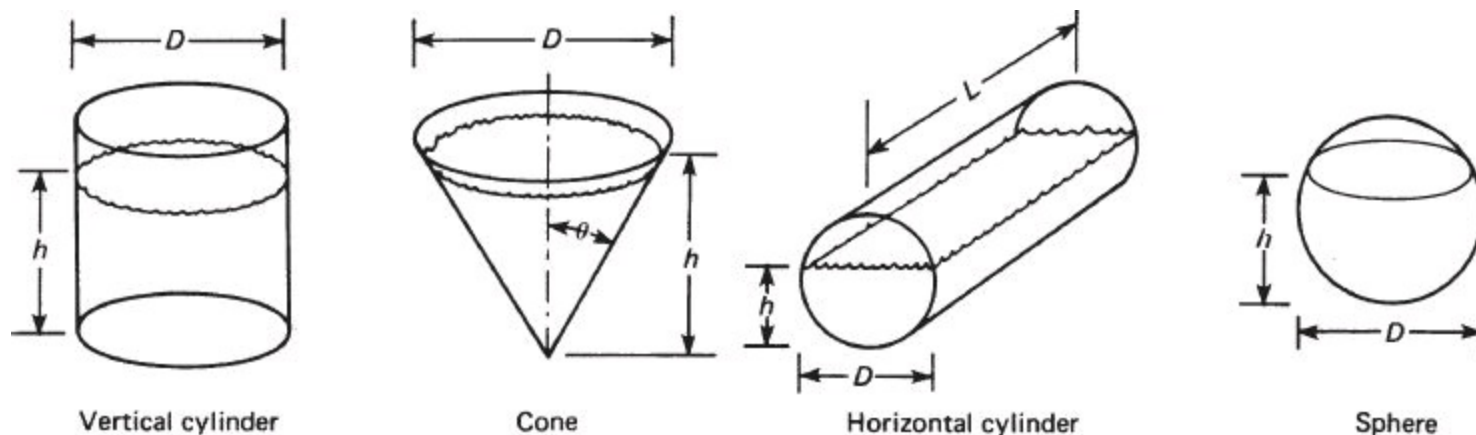

Figure SAT17TP1
1. Refer to the tank in Example 17.2. If the square tank is replaced by (a) a vertical cylindrical tank, (b) a conical tank with vertex at the bottom, (c) a horizontal cylindrical tank, or (d) a spherical tank with the parameters shown in Figure SAT17TP1, if h and D are the same in each tank at $t = 0$, which tank will be the first to drain completely?